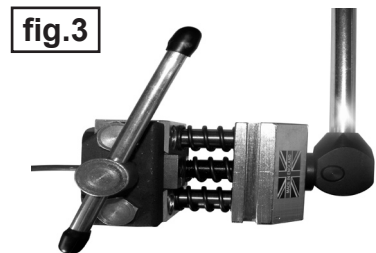

fig.3
- 3.5. After the pipe has been prepared as instructed above, ensure the tube nut is fitted to the pipe. Pass the pipe through the rear of the die until the prepared end is flush with the front face of the die. Ensure that both halves of the die are contacting the die stops. Swing the locking plate into position and tighten the clamping screw. Check that the position of the pipe and die are still correct (Fig.3).